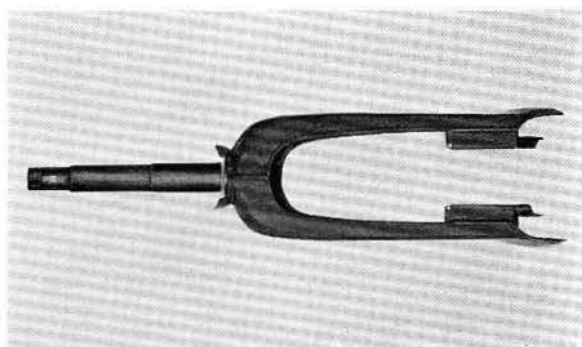

Fig. 4-13 Front fork
5. Loosen the stem nut, remove the top cone race and pull out the front fork. (Fig. 4-13)